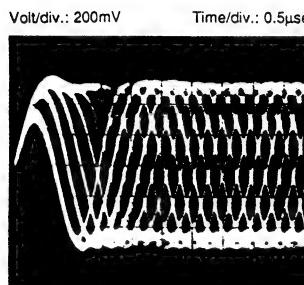

Fig. 10
- Adjust RV502 to max. height and good shape of wave form (Fig. 10). Mark "O" to be clearly distinguished at the centre).